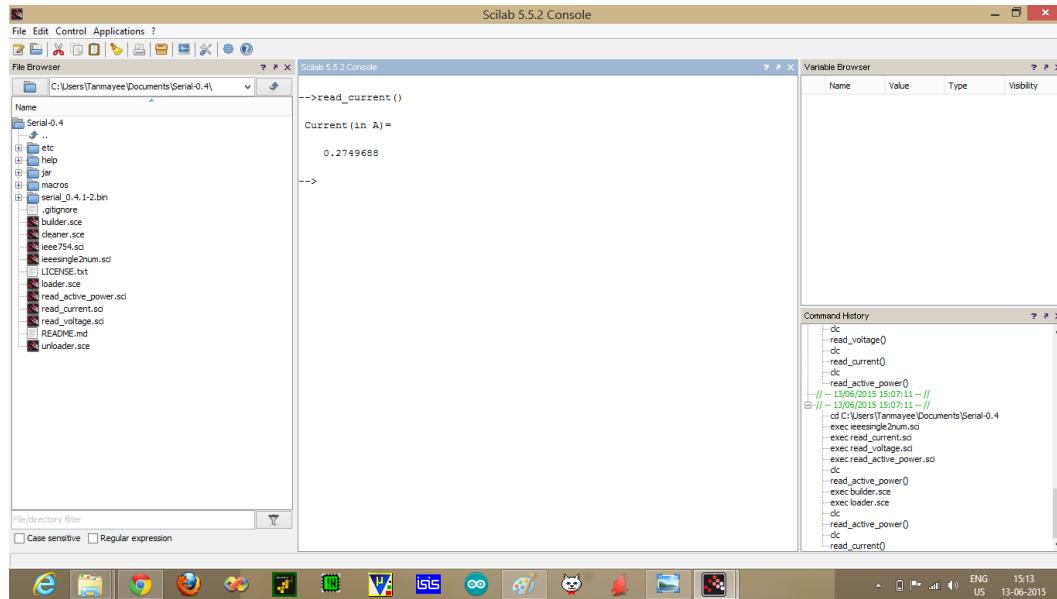

Figure 11.8: Single Phase Current Output on Scilab Console
- Single phase current output: Fig. 11.8 and Fig. 11.9 show Scilab code output of current in Amperes and corresponding snapshot of Energy Meter display with a single load rated 60W-230V.